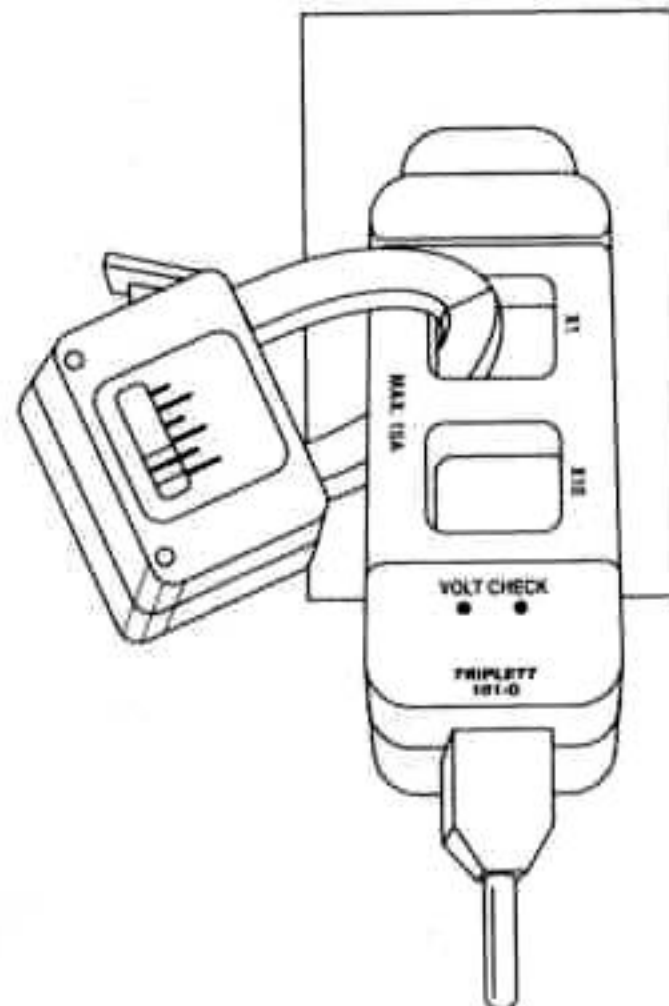

FIGURE 2
4. With Model 10 adaptor and Model 60 VOM connected and set properly for measuring AC current, snap Model 10 through the X1 hole in Model 101-G and take readings, starting at the highest current range. (Figure 2)